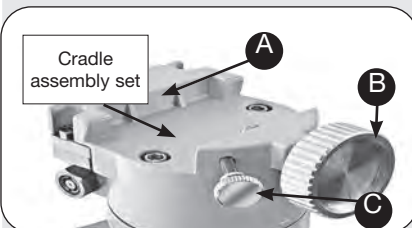

Fig. 7: Mounting the cradle assembly to the mount shaft (EXOS-2)
7. Attach the cradle assembly to the mount – Models R and N: Remove the optical tube from the cradle and slide the cradle assembly (11, Fig. 1a) onto the cradle mounting slot. See Fig. 7. The rounded base of the cradle assembly fits into the rounded portion of the mounting slot. Tighten both the cradle locking knob and the secondary locking knob to a firm feel.